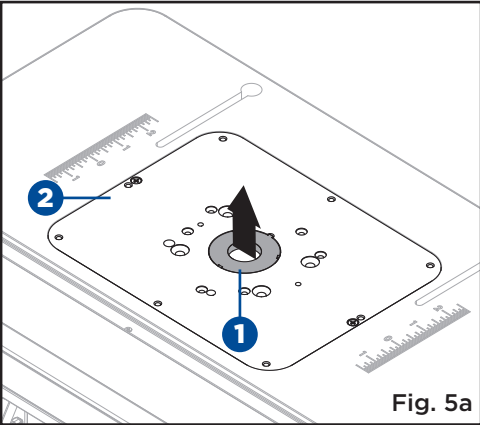

Fig. 5a
ATTACHING THE ROUTER TO THE INSERT PLATE (Fig. 5a-5c)
- Push throat plate (1) out from the bottom of the insert plate (2). (Fig. 5a)